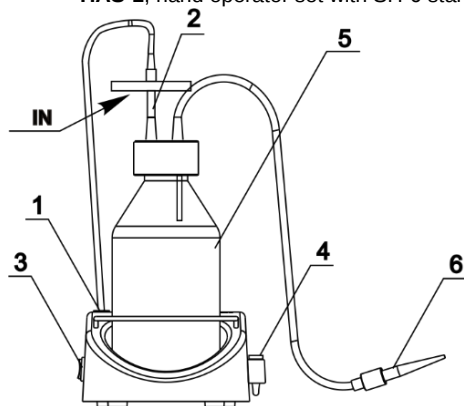
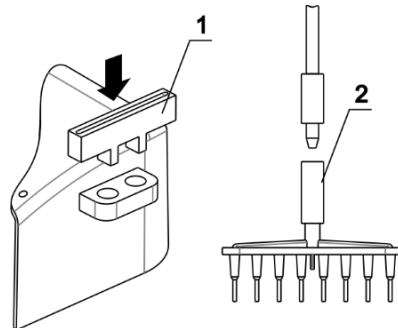

Figure 1. Assembled FTA-1
Figure 2. Installation of MA-8 aspiration tip
- Install the trapping flask (fig. 1/5) on the unit.
- Assemble the lid, aspiration tubing and filter set (fig. 1/2). Attach aspiration tip (fig. 1/6) to the tubing.
Caution! Position the filter with the **IN** marking pointing towards the unit (fig. 1/2).
- Connect the filter tubing to the pump (fig. 1/1) located at the top of the base behind the trap flask, by turning the fitting clockwise.
- Place the microtubes for aspiration tip into the holder (fig. 1/4).
- 4.3.1. **Optional MA-8 aspiration tip installation.** Remove microtubes and aspiration tip from the holder (fig. 1/4). Place MA-8 storing holder (fig. 2/1) into the holder. Remove aspiration tip (fig. 1/6) from the aspiration tubing and connect the **MA-8** aspiration tip (fig. 2/2). Store the aspiration tip in the new holder.
5.2. Turn the **Power** switch (fig. 1/3 or 7/2) to the position **I** (on). The pump starts working.
5.4. Touch the surface of the liquid with the aspiration tip (fig. 1/6, 5/1 or **MA-8**) to remove the liquid.